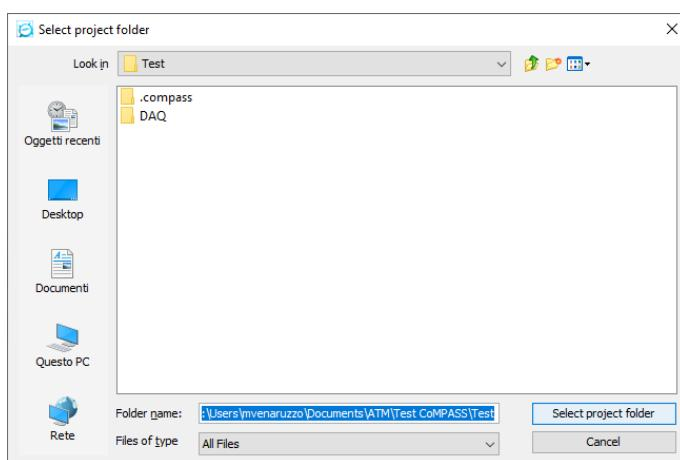

Fig. 5.3: CoMPASS New Project window.
- **New Project:** this function allows the user to start a new project (Fig. 5.3). The user have to select the folder in which the project will be created and then press on the button "Select Project Folder". If the folder already contains a CoMPASS project a pop-up appears informing the user that can decide to overwrite the selected folder content or change it.